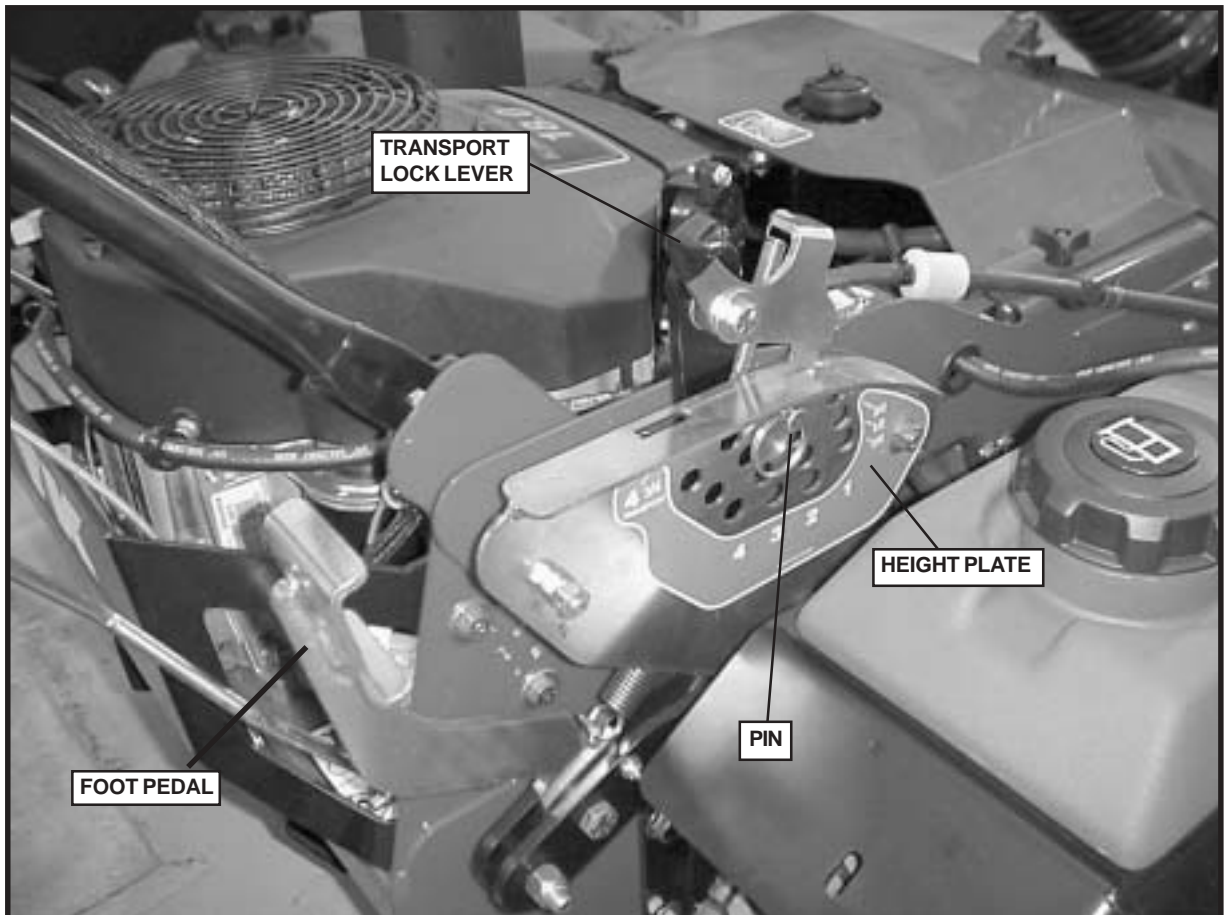

FIGURE 1
2. Cutting height is changed by pushing the foot pedal (Figure 1) down until the transport lock lever securely latches into the slot on the top surface of the height plate.